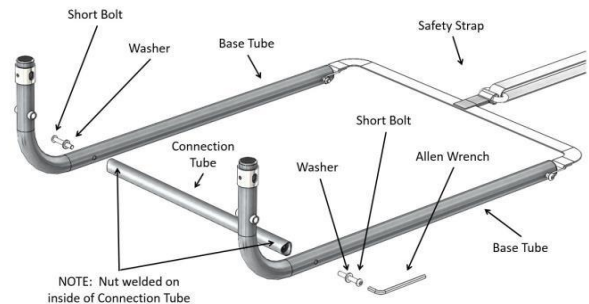
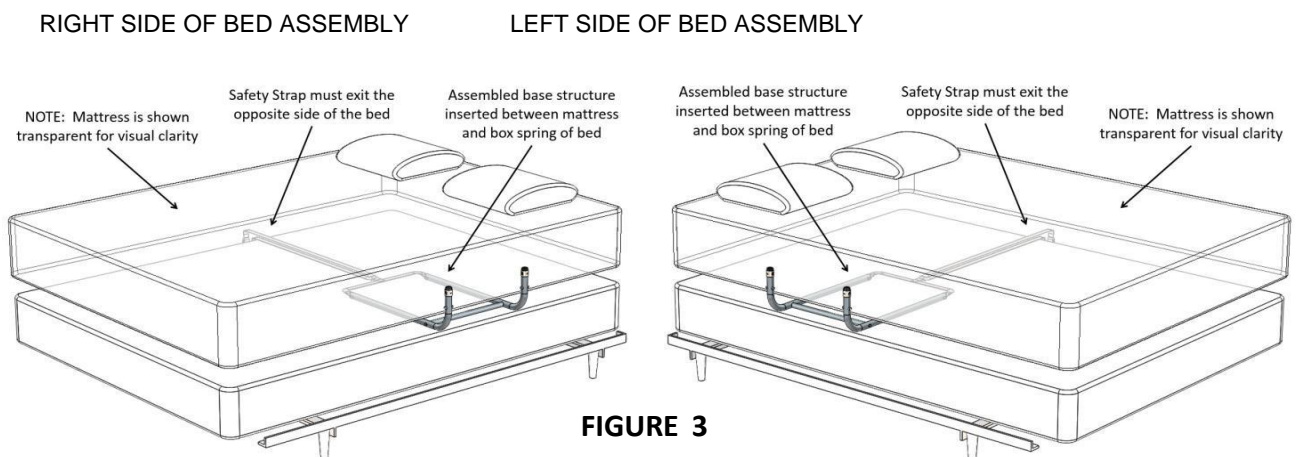

FIGURE 2
FIGURE 3
2. Use the Allen Head Wrench to attach the CONNECTION TUBE to the BASE TUBES using the SHORT BOLTS and WASHERS as shown in Figure 2. NOTE: Nuts are welded on inside of CONNECTION TUBE.
3. Determine which side of the bed to install the Bed Rail. Slide the assembled base structure from Figure 2, between the mattress and box spring of the bed as shown in Figure 3.